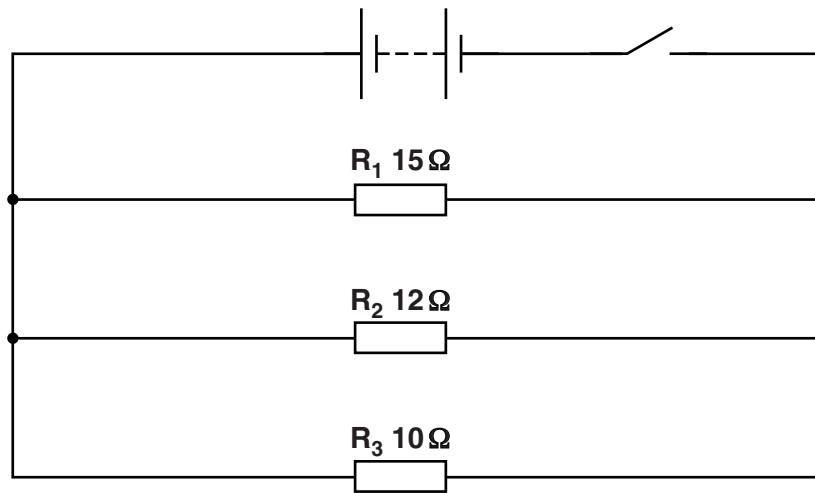

Fig. 2
- 3 Fig. 2 shows an electrical circuit with three resistors.